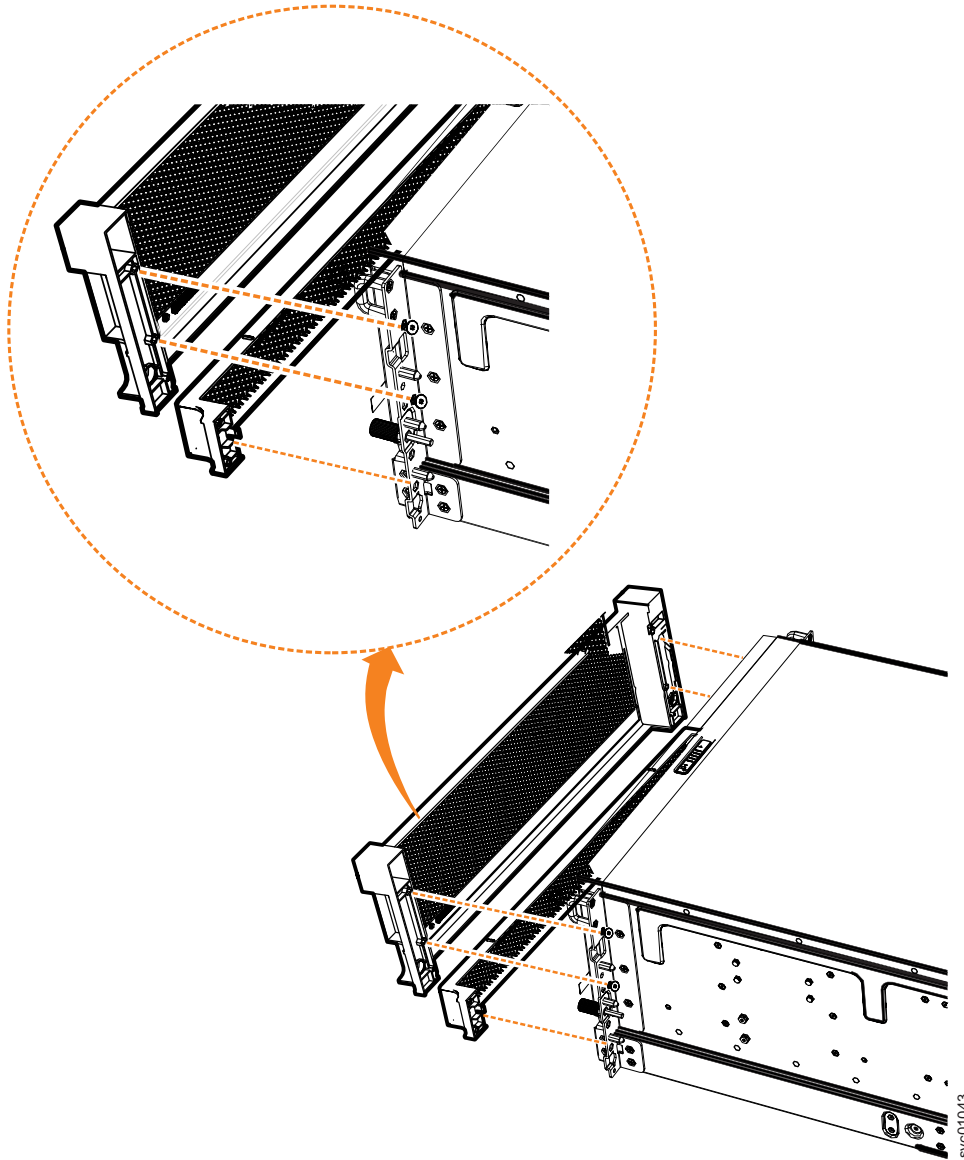

Figure 88. Replace fascia components on the expansion enclosure
2. Align the front 4U fascia with the enclosure so that the thumbscrews go through the holes on each side. As Figure 88 on page 91 shows, this action aligns the screw holes on the back of the fascia with the screw holes on the front flange of the enclosure.
4. Reattach the bottom 1U fascia that covers the power supply units (PSUs). Align the fascia with the enclosure and gently push it until it clicks into place on the chassis, as shown in Figure 88 on page 91.